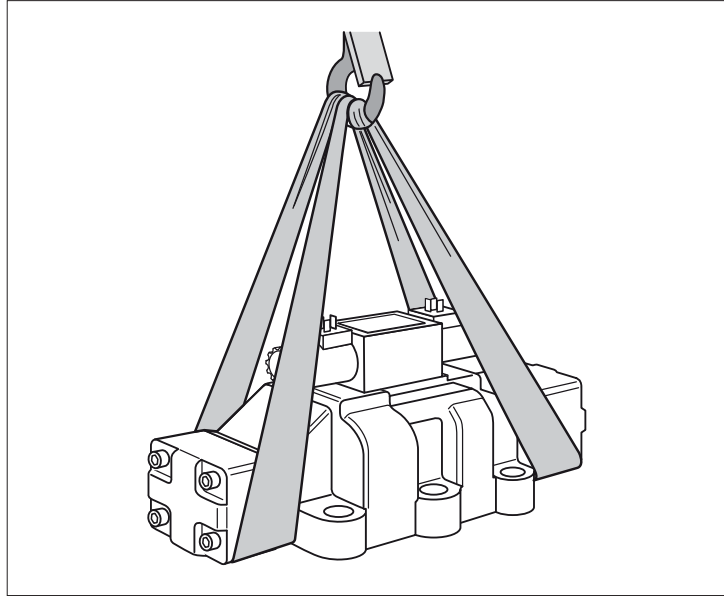

Fig. 3: Position of the lifting strap
- ▶ Put a transport belt around the valve so that it does not lie over the attachment parts (e.g. pilot control valve, solenoids), see figure 3.